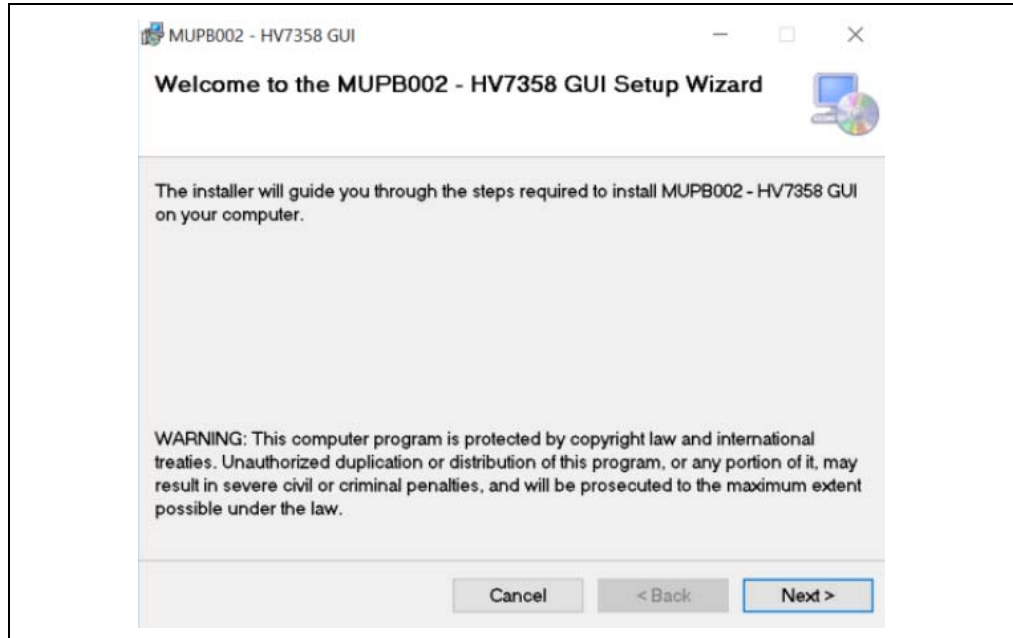

FIGURE 2-10: HV7358 Setup Wizard Opening Window.
1. Double click on the file named, MUPB002 – HV7358 GUI Setup. The window in Figure 2-10 below will pop up.